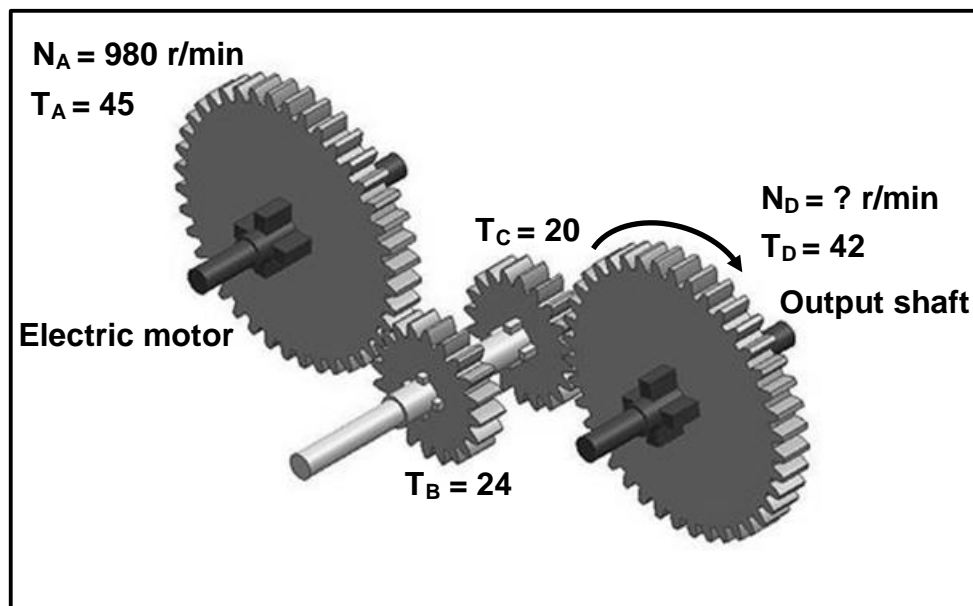

FIGURE 11.6
- 11.6 FIGURE 11.6 below shows a gear drive system connected to an electric motor.